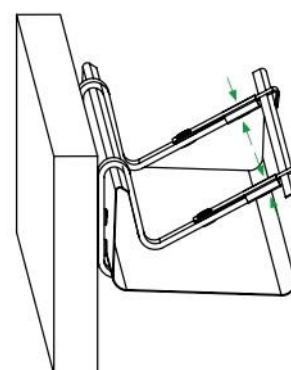

Figure 15
- Use pliers to press down the bent side arms of the bracket (**Fig. 15**).